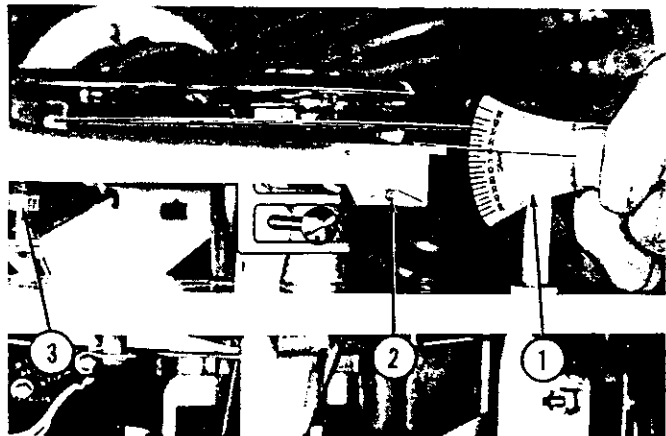

Fig. 90. NEEDLE PRESSURE ADJUSTMENT
u. Needle Pressure Adjustment. (Fig. 90)
The needle pressure adjustment is obtained by turning the needle pressure adjusting nut (Item 3, Fig. 90) in a clockwise direction to increase the pressure. The pressure of the needle against the record should be adjusted to measure 10 to 12 grams as shown in Item 1, Figure 90, and may be accomplished in the following manner:
(2) Using a sensitive gram scale, as shown in Figure 90, to measure the pressure required to just lift the needle from the record, adjust the stop nut (Item 3) to provide the desired pressure as described above.